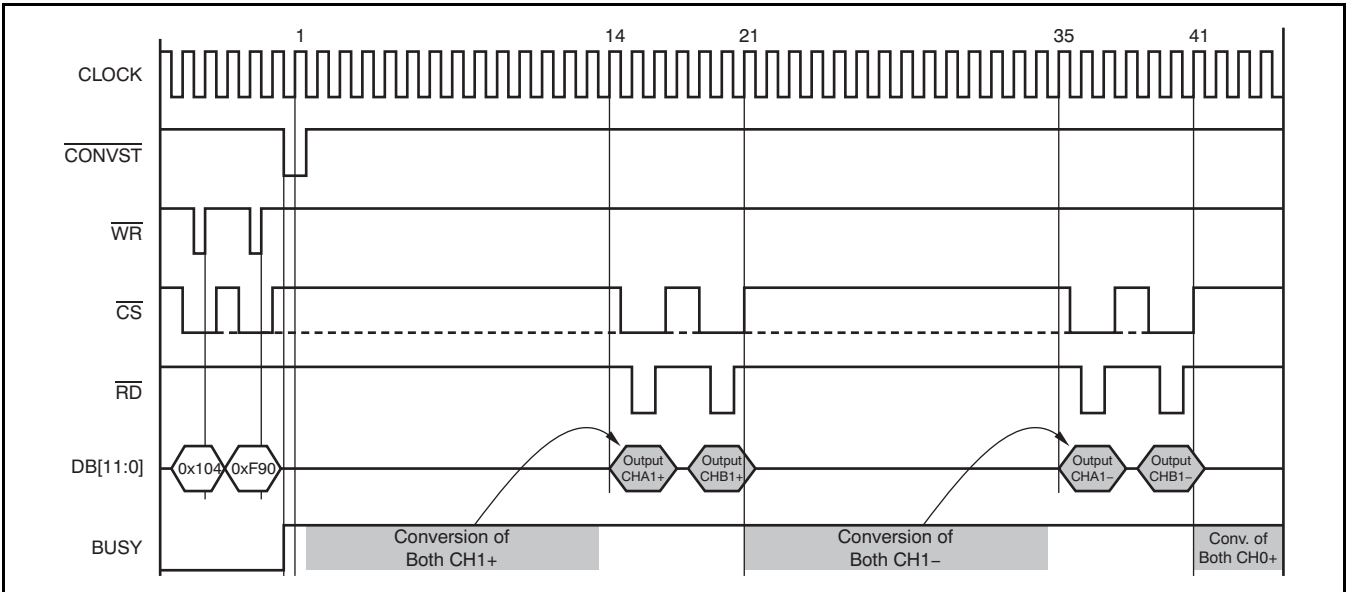

Figure 34. Sequencer Programming Example
A/B data of the second-last channel in the sequence, and so on. Trying to read out more results (2, 4, or 6) than the actual sequence length results in 000h at the output of the converter. Older conversion results are overwritten if all data of a completed sequence have not been read out before issuing a new conversion start. Figure 34 shows an example where the sequencer is set to scan through the pseudo-differential inputs of the ADS7865 beginning with CHx1+, followed by CHx1– and CHx0+, while using a single CONVST and BUSY for the entire sequence. The internal LIFO pointer is reset with every BUSY signal rising edge. Therefore, to ensure proper data retrieval, the sequence results should either be read after completion of the entire sequence conversion or between two consecutive conversions within the sequence as indicated in Figure 34. Other read options may deliver incorrect results.
- Updated Figure 34 **20**